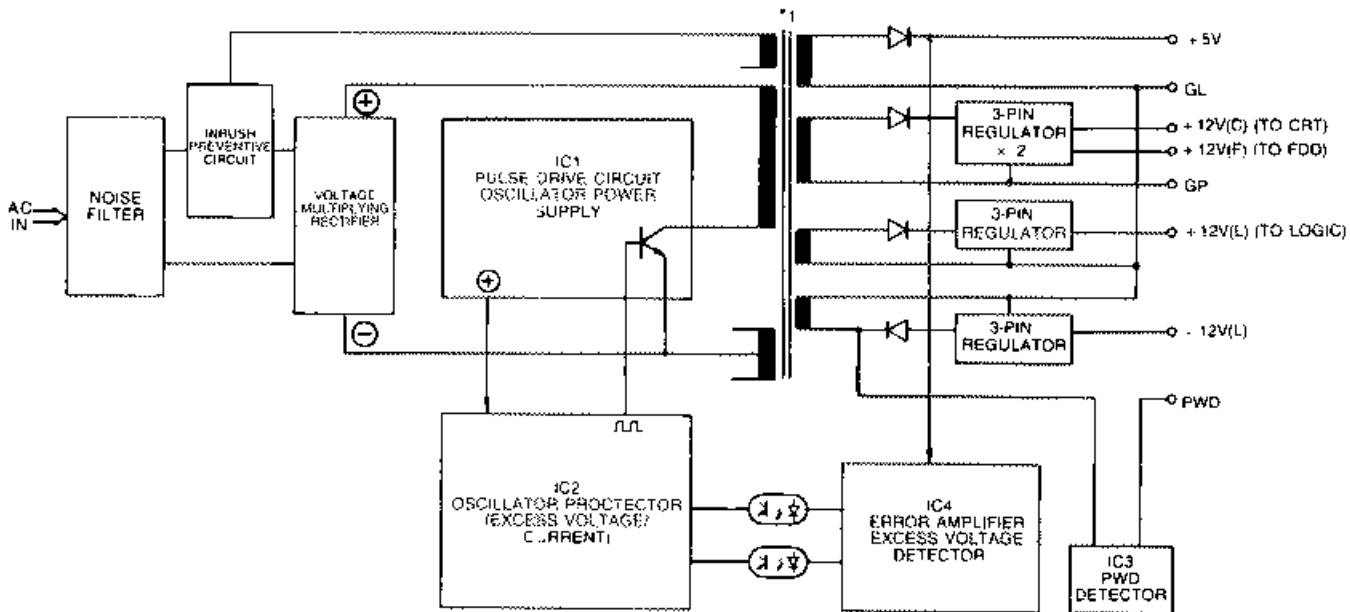

FIGURE 2-2. POWER SUPPLY BLOCK DIAGRAM.
2.2 POWER SUPPLY OPERATION (Figure 2-2)